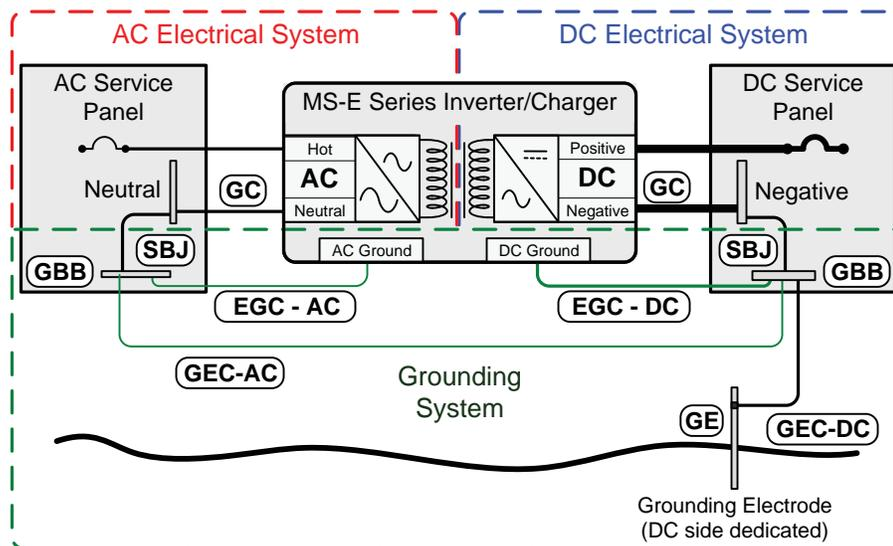

Figure 2-13, Single Connection to DC Ground Rod (Method 3)
Method 3 (Figure 2-13): The AC grounding electrode conductor (GEC-AC) is bonded to the DC ground point and the DC grounding electrode conductor (GEC-DC) is the *only connection* to the grounding electrode (GE), which must be a rod, pipe, or plate electrode.